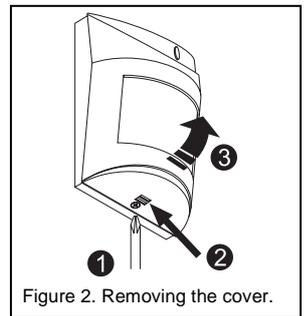

Figure 2. Removing the cover.
- Open the housing as shown on Fig. 2 and disconnect the LED backlight from its socket on electronics board.